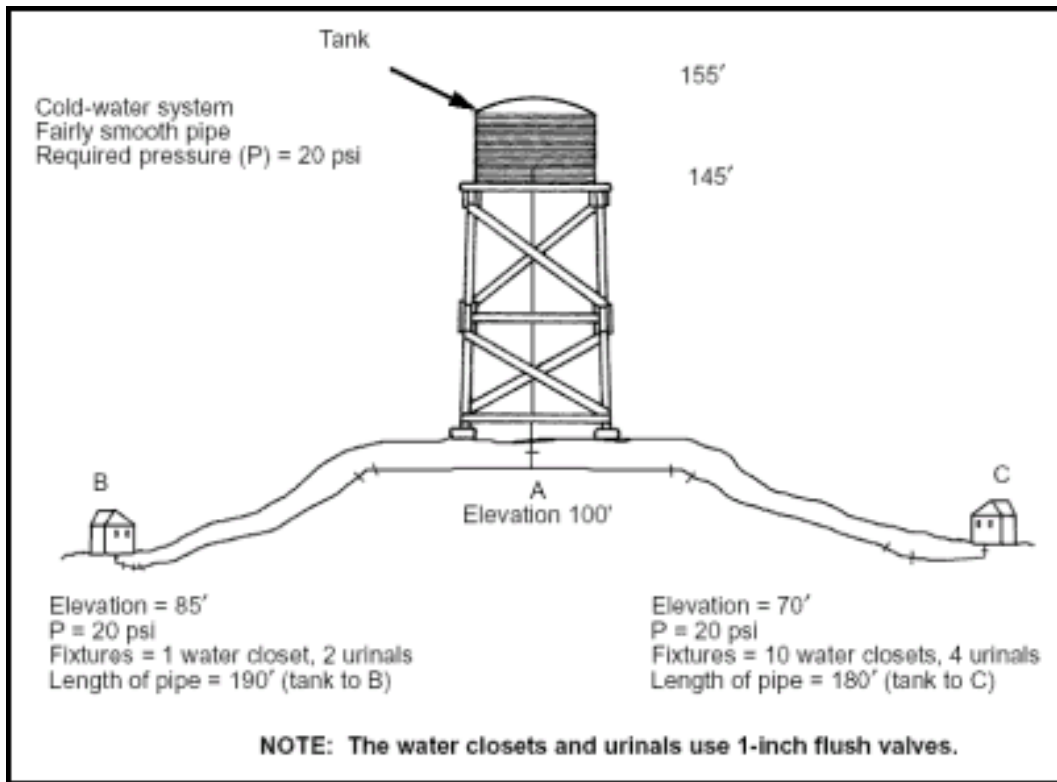

Figure E-5. Water Line, Design 2
Step 3. Determine the pipe length (Figure E-5).
Step 3. Determine the length of the pipe (Figure E-5).